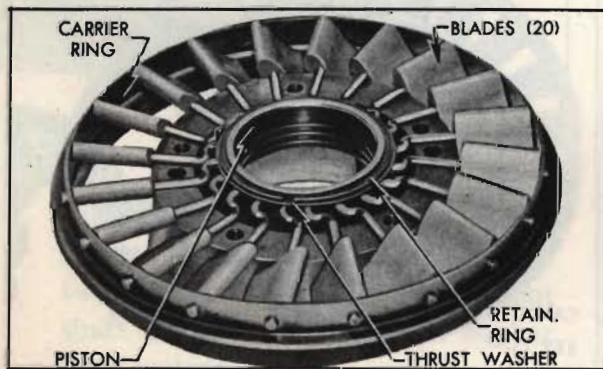

Fig. 9. Front side of stator, with carrier removed
- Remove the retaining ring and thrust washer from hub of the stator piston. Remove stator blade carrier ring and stator blades from the rear carrier (Fig. 9).
3. Rest stator blade carrier ring on bench with holes up. Install stator blades with concave sides up, cranks toward center of ring. The blades should be in a nearly closed position (Fig. 9).
4. Carefully pick up the carrier ring with the blades in position and place on the rear carrier. All cranks must engage the grooves in the carrier (Fig. 9).
5. Install the thrust washer over the cranks. Install retaining ring in groove of piston hub (Fig. 9).